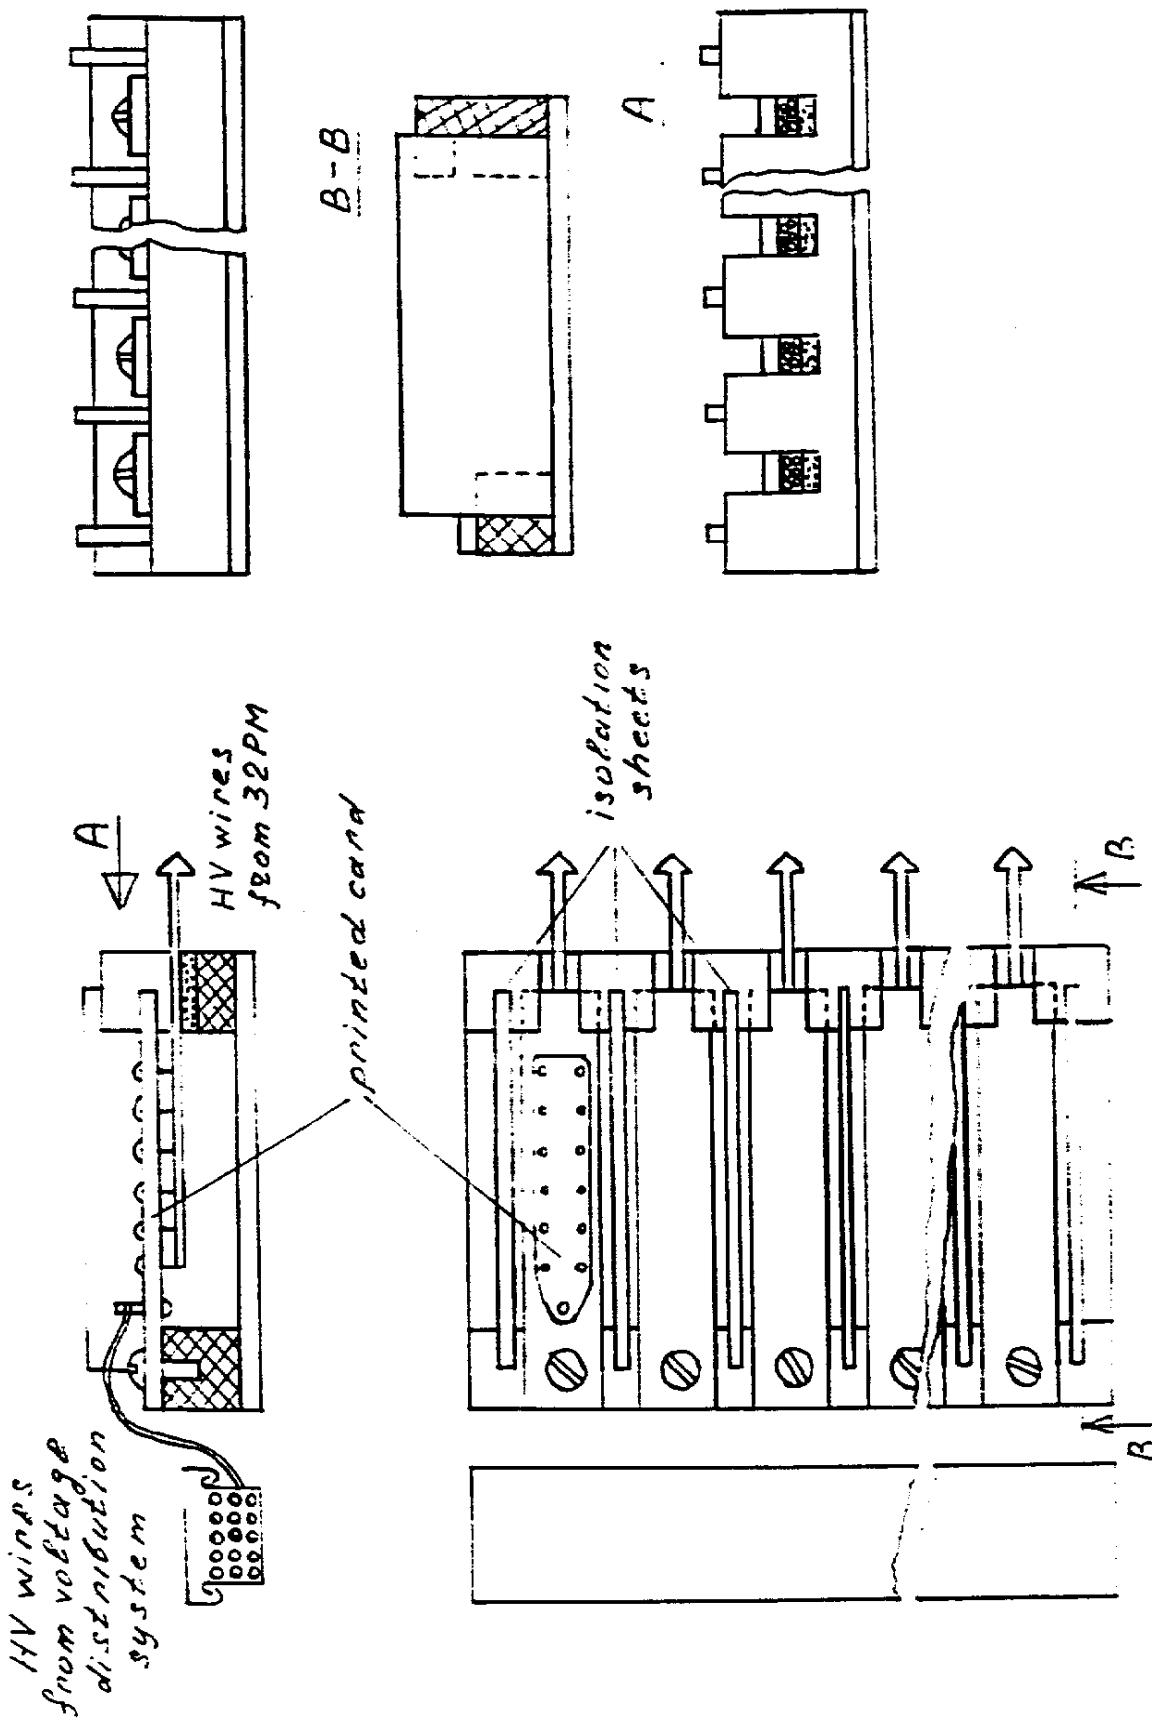

FIGURE 10
3. Ninety-six high voltage cables (RG58) enter the phototube box through an SHV feed-through panel. Each cable supplies a column of phototubes. Each group of 16 phototubes is soldered to a single high-voltage fanout board and to a single ground fanout board. Two boards from each column share a common high voltage input. The distribution boards are mounted to a specially insulated support on the bottom of the phototube box. All boards are separated by insulating sheets (Figure 10).